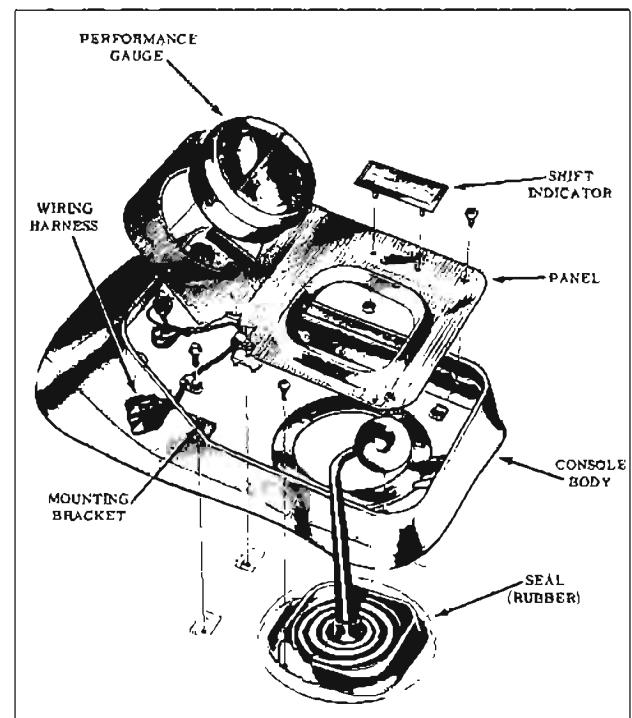

Fig. 11-263 Console and Seal Assembly
2. Remove (4) trim panel screws and remove trim panel. (Fig. 11-263)
3. Lift edge of seal and remove (6) seal and con-